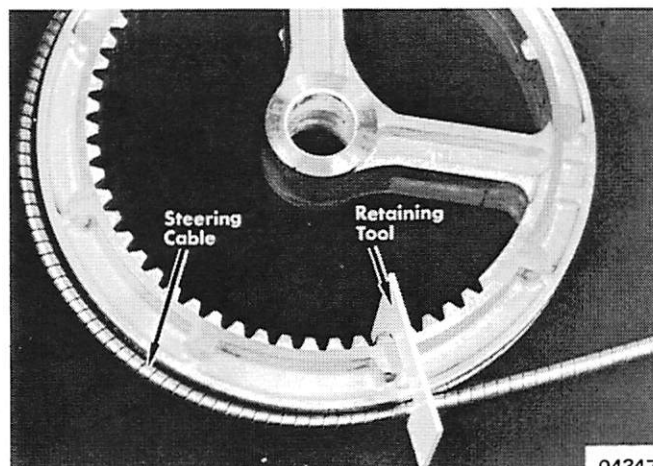

Figure 7. Installing Cable with Retaining Tool
2. While holding ring gear with gear teeth toward left side, install cable end into retaining hole in ring gear with cable extended in a counterclockwise direction. (Figure 7) Tap hooked end of cable lightly to seat into hole.